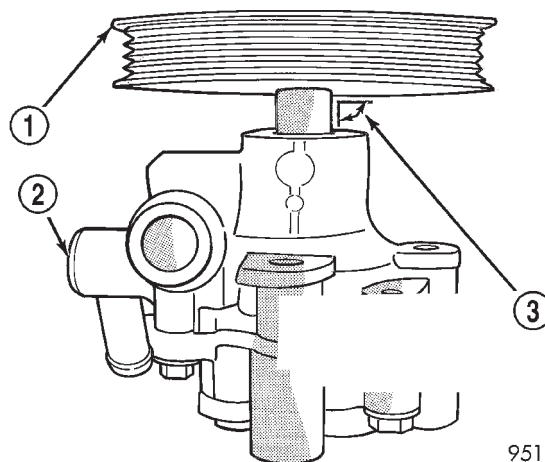

Fig. 21 Pulley Positioned On Shaft Of Power Steering Pump
(1) Mount power steering pump in a vise using the power steering pump mounting bracket.
(2) Place power steering pump pulley squarely on end of power steering pump shaft (Fig. 21).